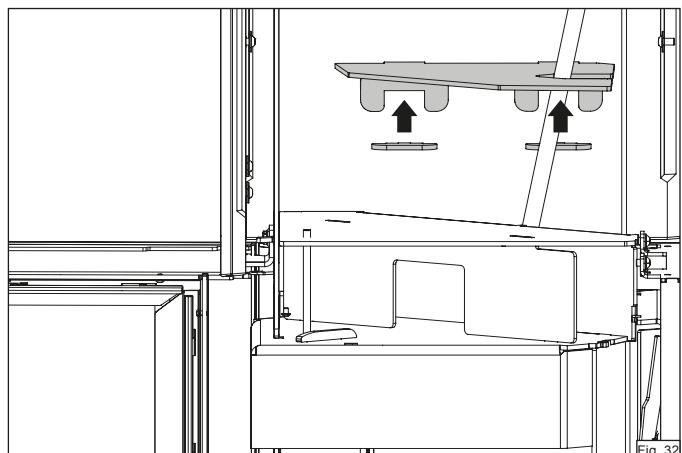

Fig. 32
- ▶ Slide the baffle plate up and out of the brackets (Figure 32).